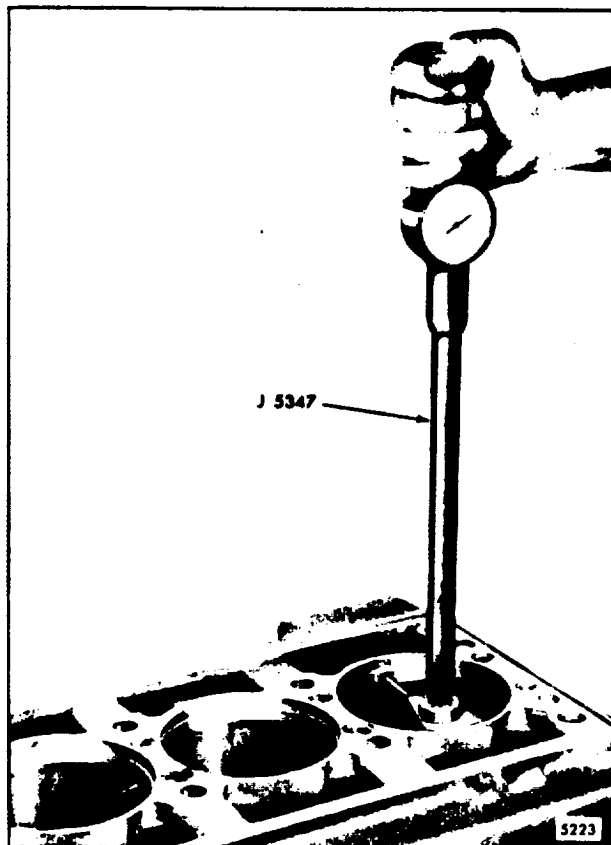
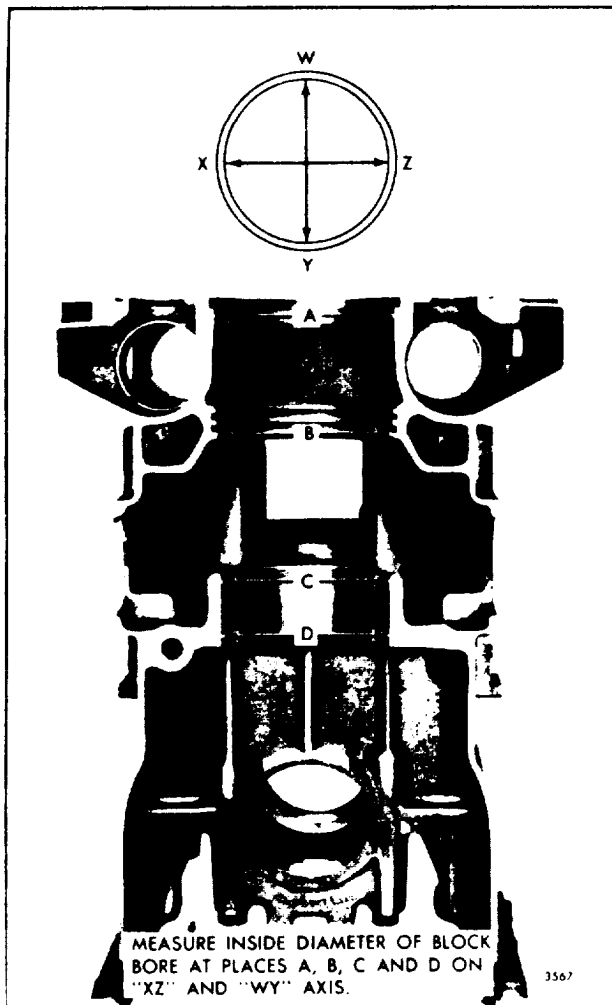

Fig. 12 - Checking Cylinder Block Bore with Tool J 5347
Fig. 13 - Block Bore Measurement Diagram
- b. Measure the entire bore of each cylinder with cylinder bore gage J 5347 (Fig. 12) which has a dial indicator calibrated in .0001 " increments. Use dial bore gage setting tool J 23059 to preset the cylinder bore gage to zero. Measure each block bore at the positions indicated in Fig. 13, on axis 90° apart. If the diameter does not exceed 4.5235 " at position "A", 4.4900 " at position "B" (and a sealing problem hasn't occurred), or 4.3595 " at position "C" and "D", then the block may be reused. Also, the taper and out of round must not exceed .0015 "